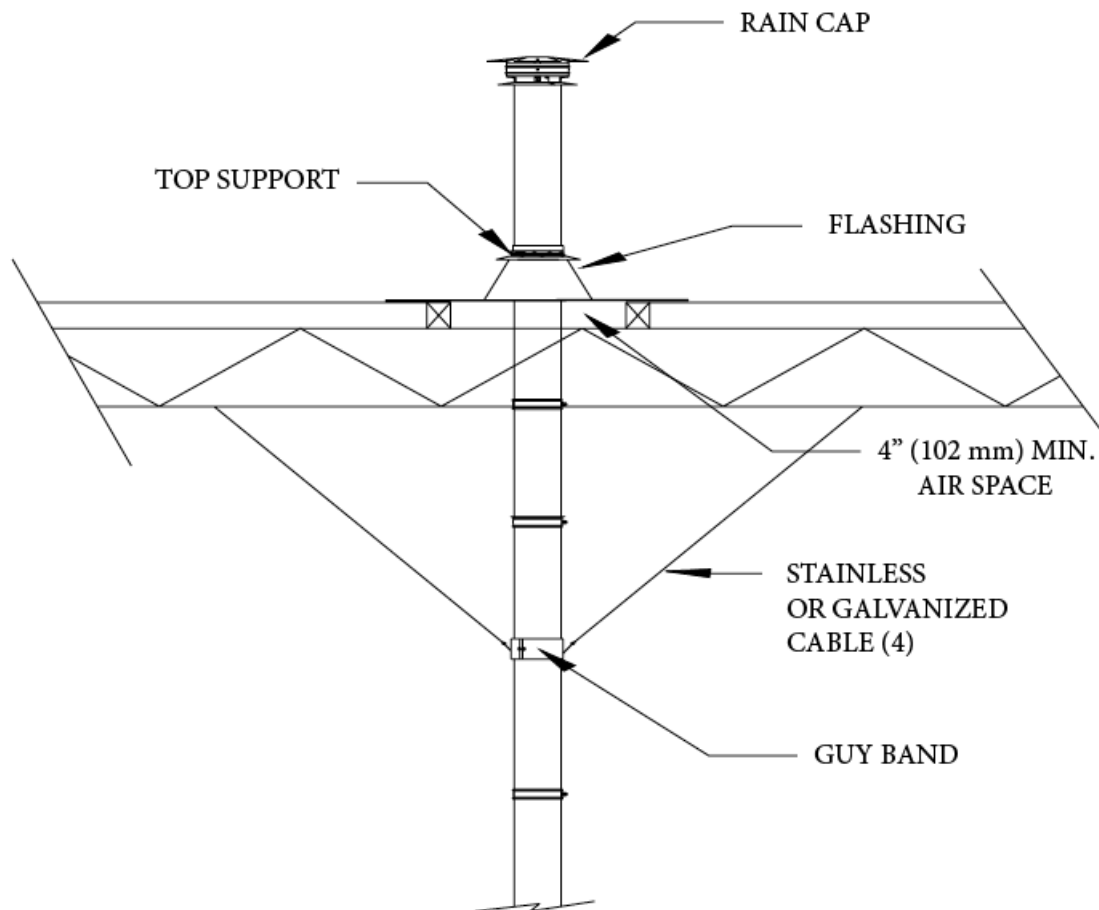

FIGURE 6/c
(See figure 6/e)
1. Using the **JOINT PROCEDURE**, (figure 6) join pipe lengths as they are lowered down the chimney until bottom end lines